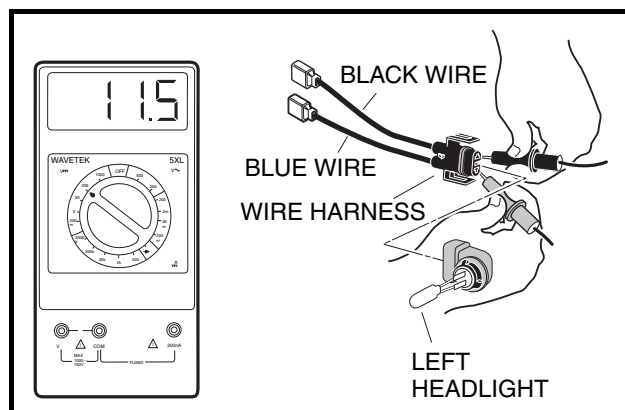

Figure 11-43 Check Voltage to Headlight Socket
3. Remove the wire harness from the headlight (**Figure 11-43, Page 11-38**).